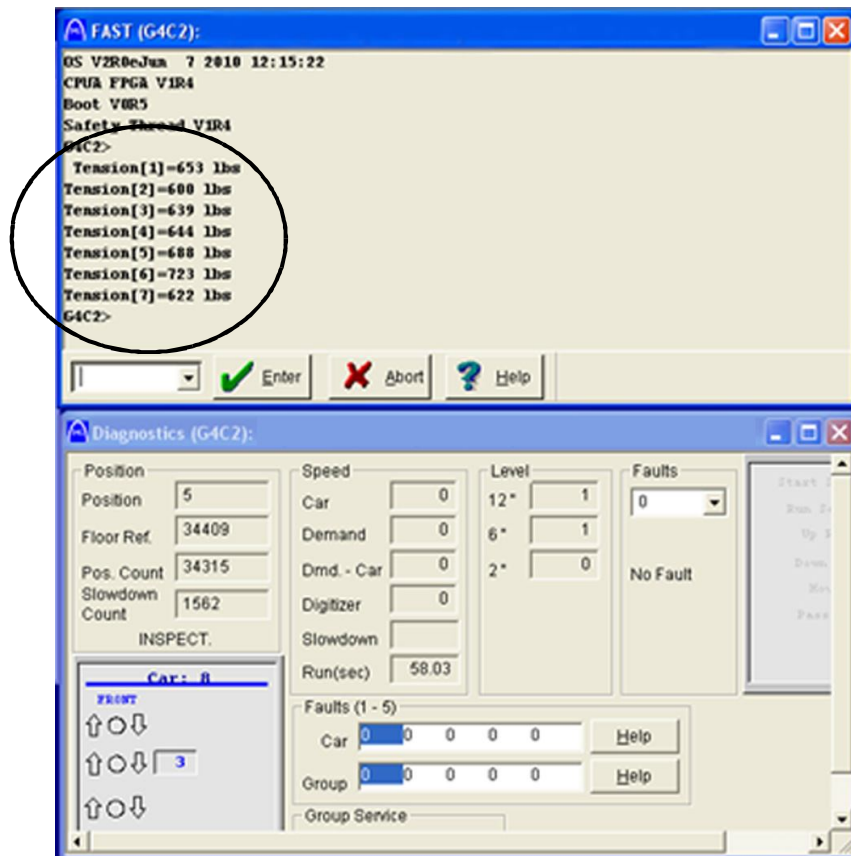

Figure 3 - Tension of the Hoist Ropes
4. Enter EMCT command in the Remote Fast of IMS to display the current tension of the hoist ropes. Note the displayed values for future reference. See Figure 3.